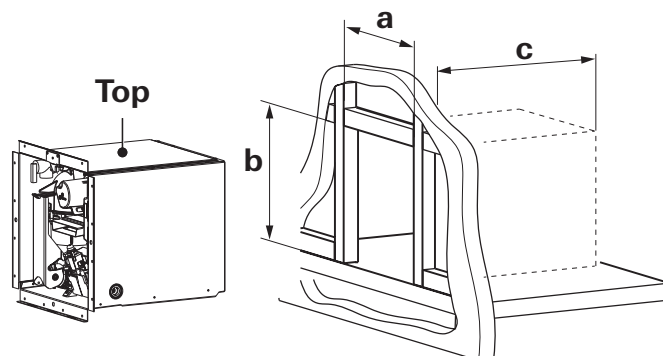

Fig. 10
4. Make sure that the front edge of the opening is surrounded by a solid frame to firmly anchor the Truma AquaGo™ instant water heater. If needed, build an appropriate frame (Fig. 10) with the following dimensions: